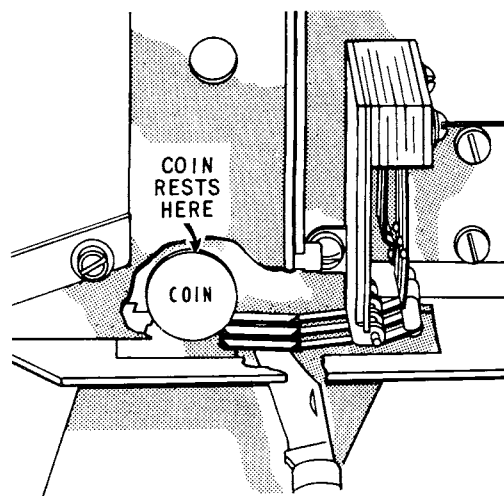

Figure 12. Coin Position
DO NOT ATTEMPT ANY BENDING ADJUSTMENT IF THE SWITCH MEETS CONDITIONS OUTLINED ON FIGURES 12, 13 and 14.
1. Insert a dime at top of the slug rejector while supporting the switch actuating lever with a knife blade. The coin rests on the lever as shown in Figure 12.
5. Bend short blade at this point so it moves approximately $1/64$ " when coin is slowly released as in Figures 12 and 13.